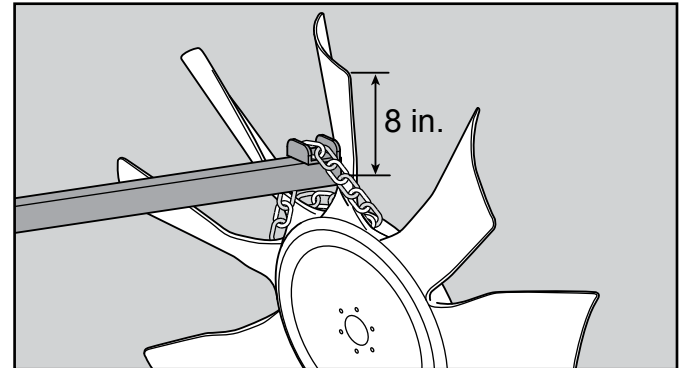

Figure 11. Reinstalling Lifting Chain
8. Install the lifting chain on the fan again and secure the chain to the fork extension tool cradle. The distance from the top of the uppermost blade to the fork extension tool should be approximately 8 inches (Figure 11) so that the fan can be properly positioned and aligned in front of the upper pulley.